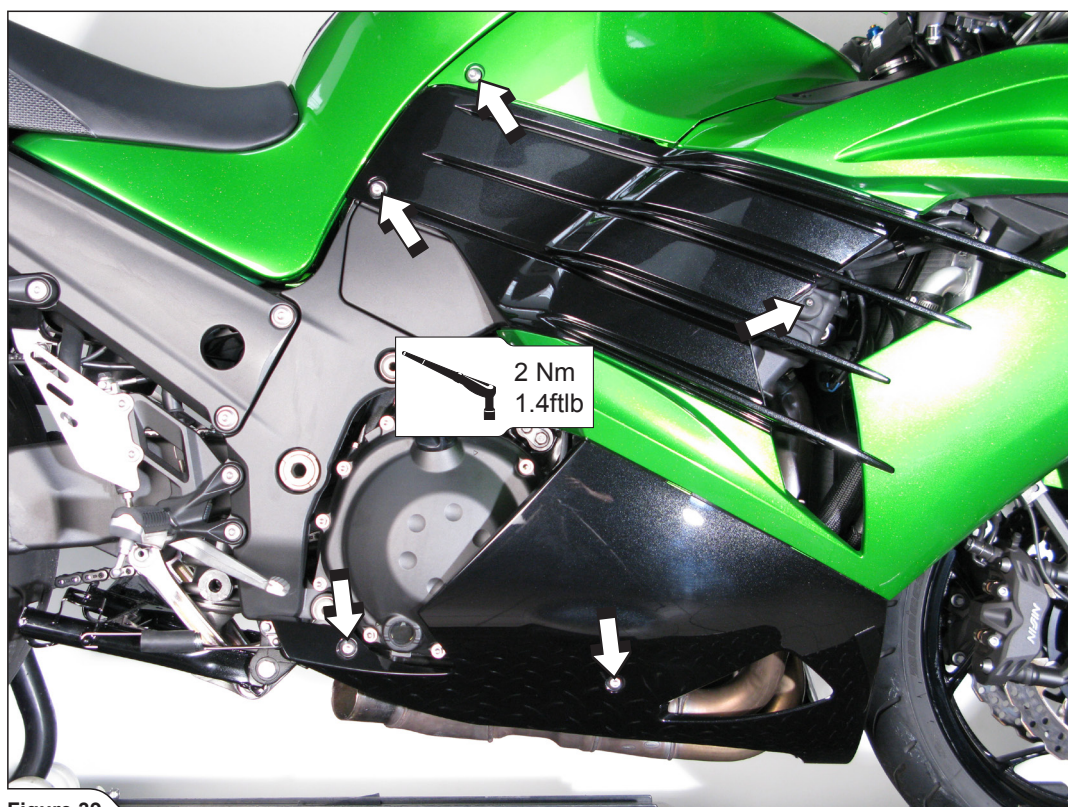

Figure 39
18. Reconnect the turn signal electrical connectors and replace all cowlings in the reverse order from the order in which they were removed (Figure 39).